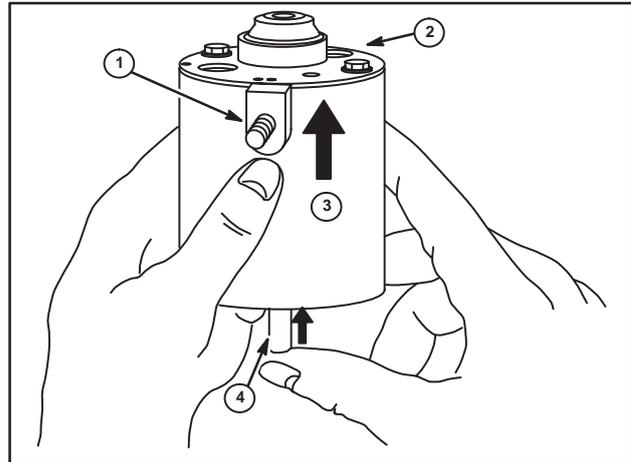

Fig. 35
- Push motor armature out through bottom of starter housing (3), taking care to slide rubber mounted terminal (1) out of motor housing (3) along with end cap (2), Fig. 35.